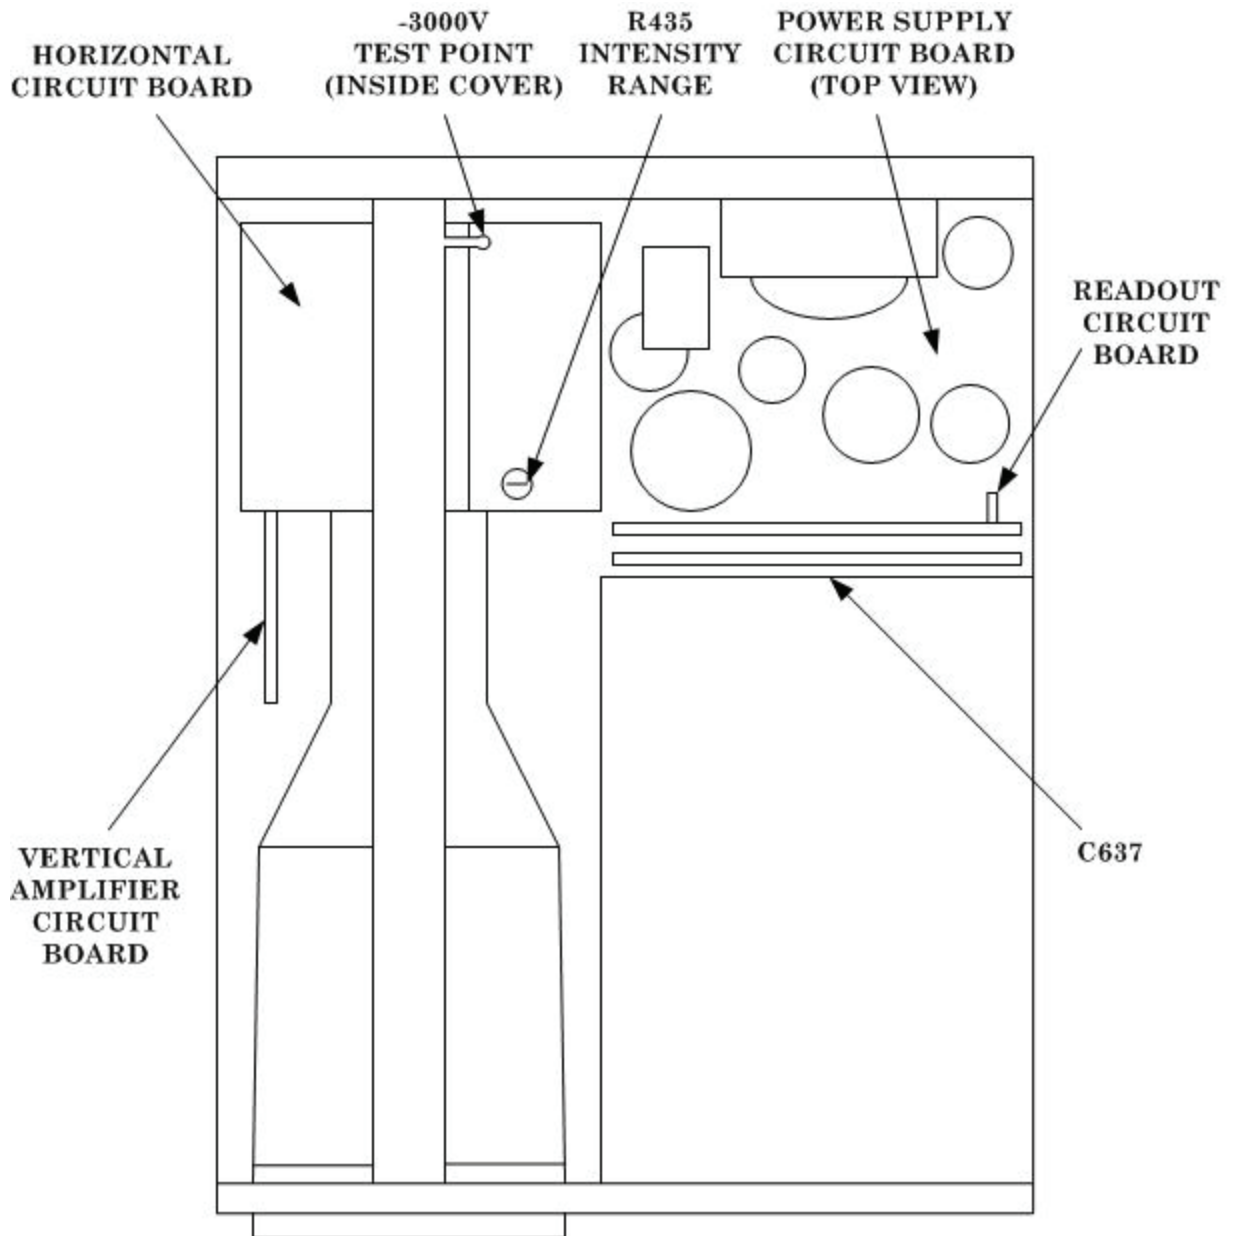

Figure 1. TI circuit board locations.
a. Refer to figure 1 for location of TI circuit boards.
b. Adjustment. Turn TI **INTENSITY** control fully ccw and adjust R435 **INTENSITY RANGE** (fig. 1) until trace is just visible and then readjust until trace is just extinguished.